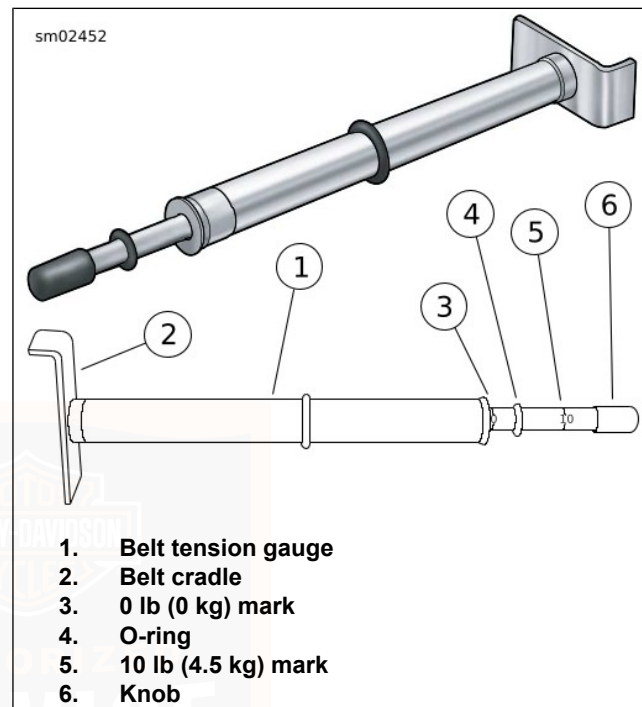

Figure 98. Belt Tension Gauge
3. See Figure 98. Measure belt deflection using: